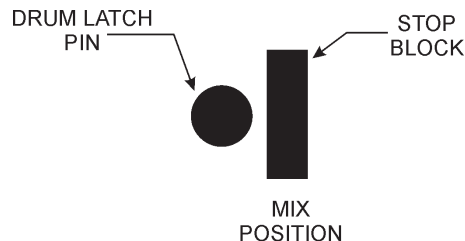

Figure 22. Drum Lock Pin (Left Position)
- When charging, mixing, or dumping a batch of plaster or mortar the **drum lock pin** should be placed to the **left** (when viewing the mixer from the towpole end) of the drum stop block which is welded to the front side of the drum. See Figure 22.